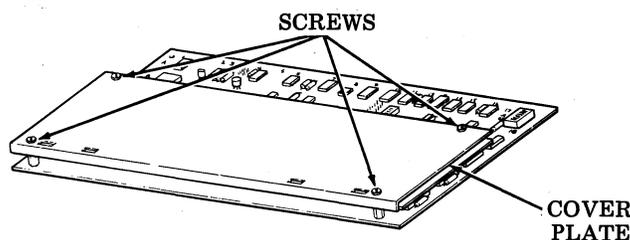

Fig. 29—Controller Assembly
7.03 Controller Assembly (Fig. 29) (if controller is removed for reoptioning):